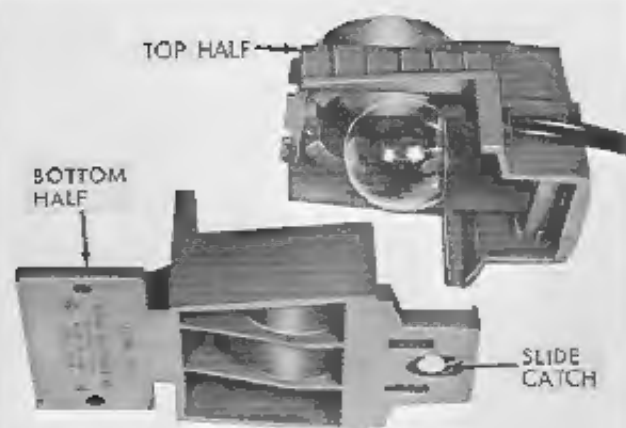

Figure 24. Changing Lamp in "On-Base" Illuminator
c. Changing Lamp. To change lamp in Cat. No. 1034 or No. 1037 illuminators, refer to figure 24. The top half of the illuminator is removable from the lower half by unlocking the slide catch on the under side of the illuminator. Tilt the microscope on its side for ready access. When this catch is unlocked, the top half lifts off the lower half. Be sure that the top half is located properly before replacing.